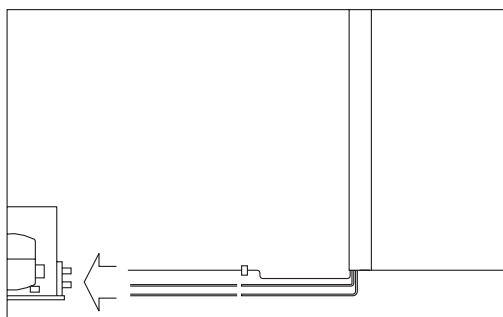

Fig.7
- position the condensing unit (Fig. 7)